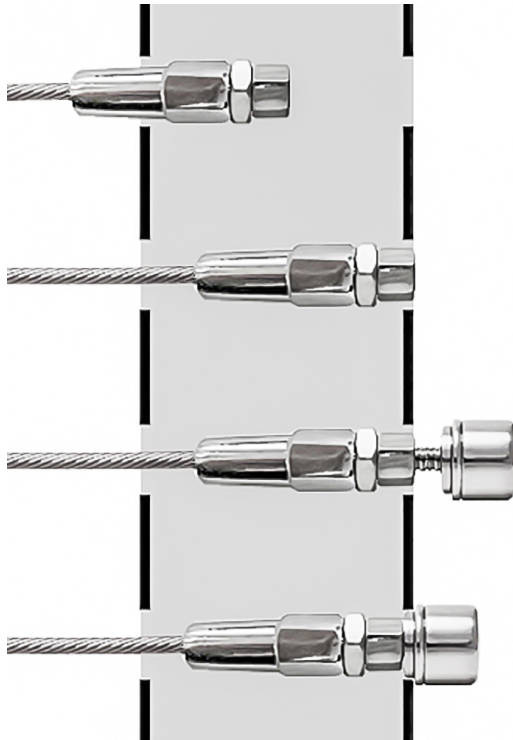

Fig 7
- 2) Re-assemble fitting and place through hole in Terminal post. (Fig. 7)